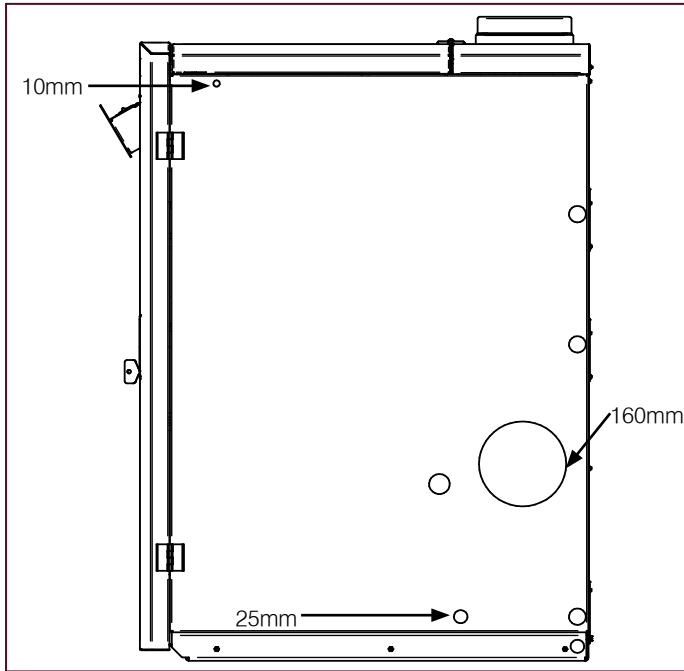

Figure 10-1: Location of knockouts in right-hand side panel
8. Carefully open up the three pre-cut holes in the right hand boiler side panel. Refer to Figure 10-1 for the location of these holes.